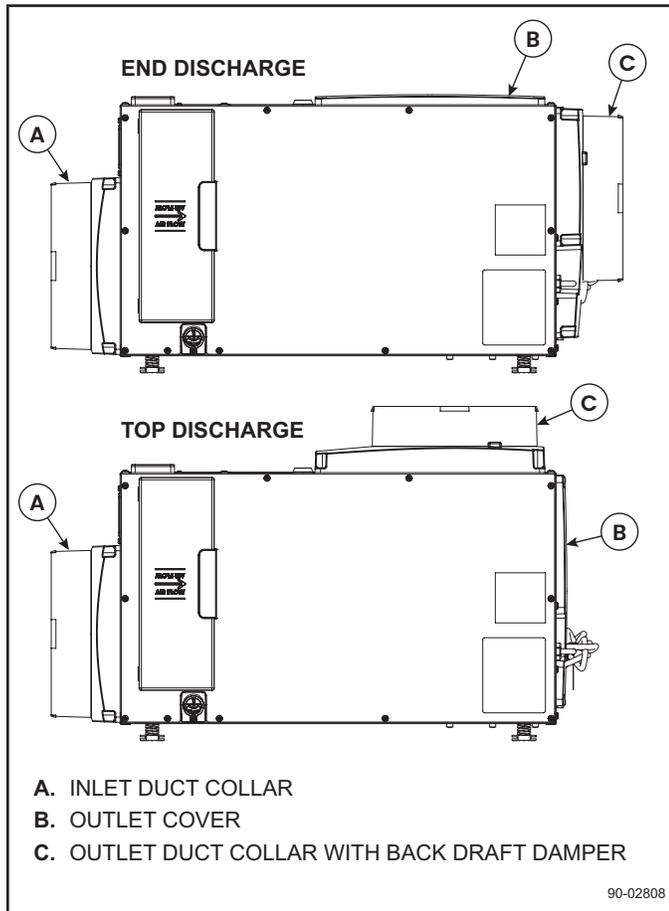

Figure 4. Fully Ducted Installations
- The outlet duct collar may be attached to the top or end of the unit. Move the outlet cover to the location not being used (see **Figure 4**).